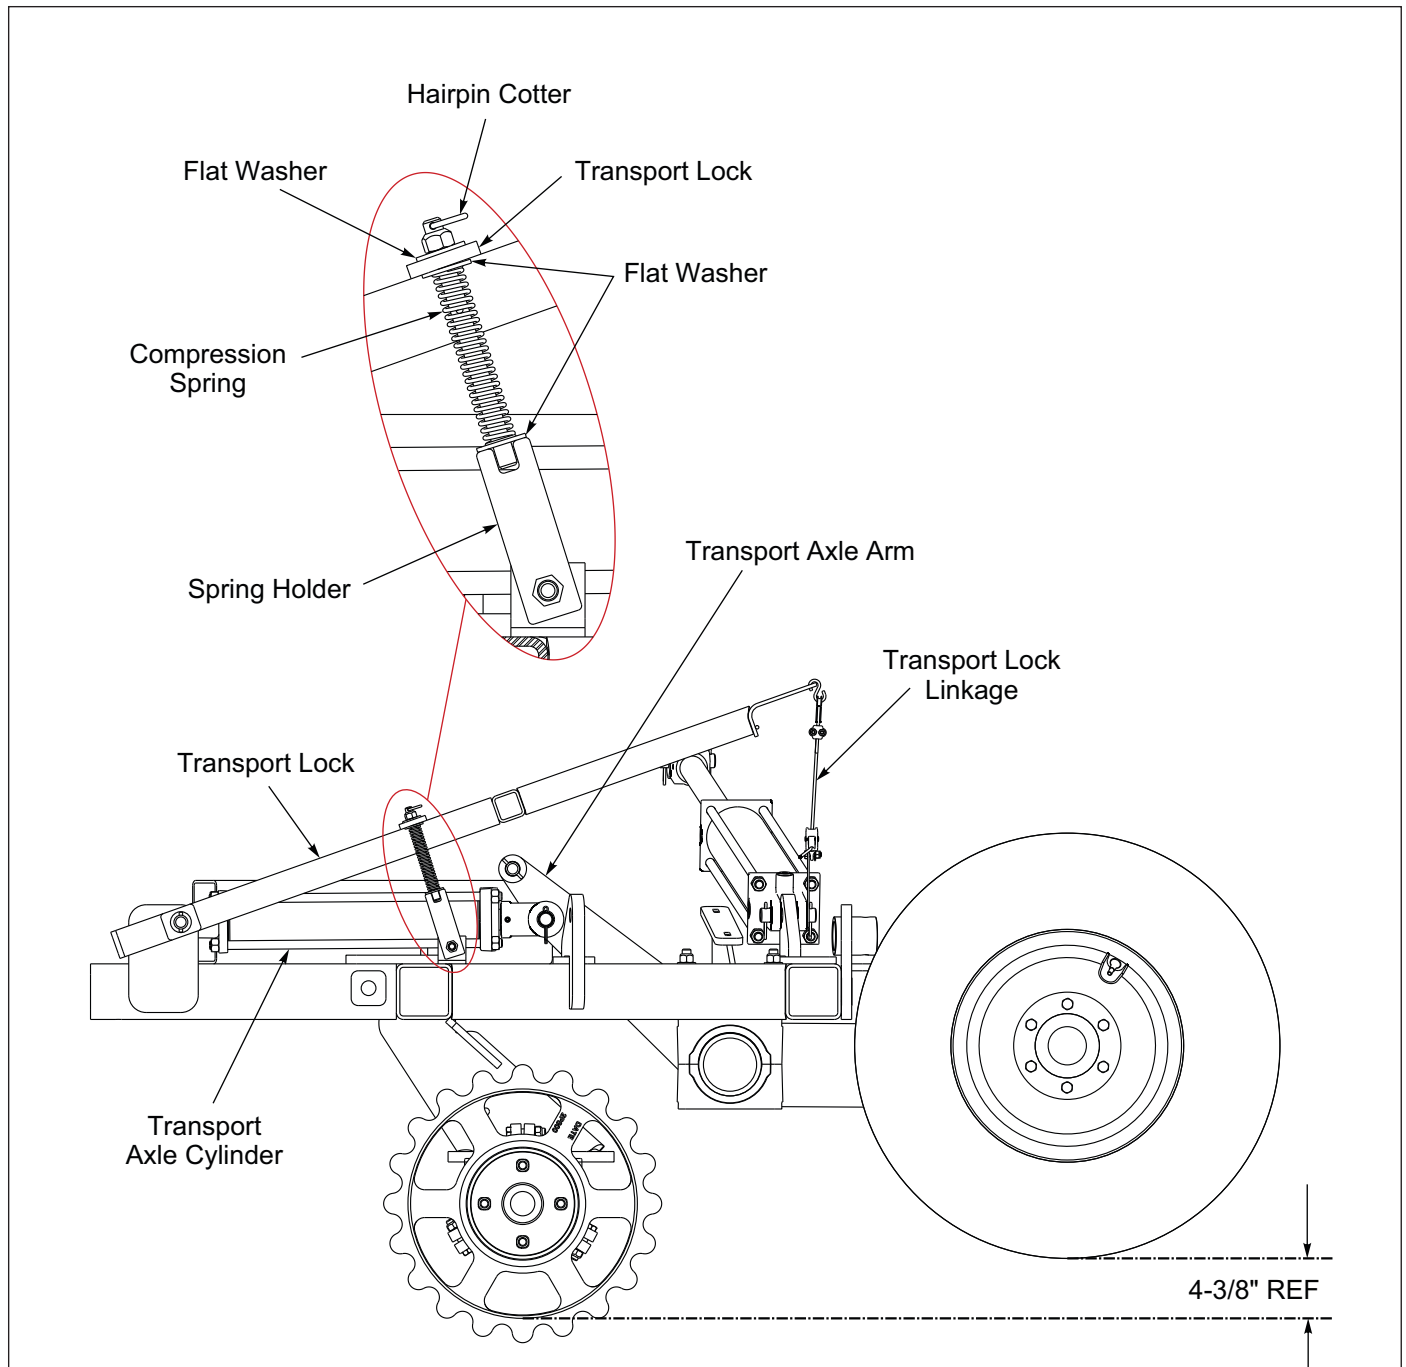

Figure 3-7: Transport Lock - Unlocked Position
4. Fully extend the Hydraulic Lift Cylinders, and retract the Wing Fold Cylinders. Transport Lock will engage when Lift Cylinder is extended. Secure Transport Lock with Hairpin Cotter. **See Figure 3-7.**
1. Remove the Transport Lock Hairpin Cotter from the bottom hole of the Spring Holder and insert it into the top hole. **See Figure 3-7.**